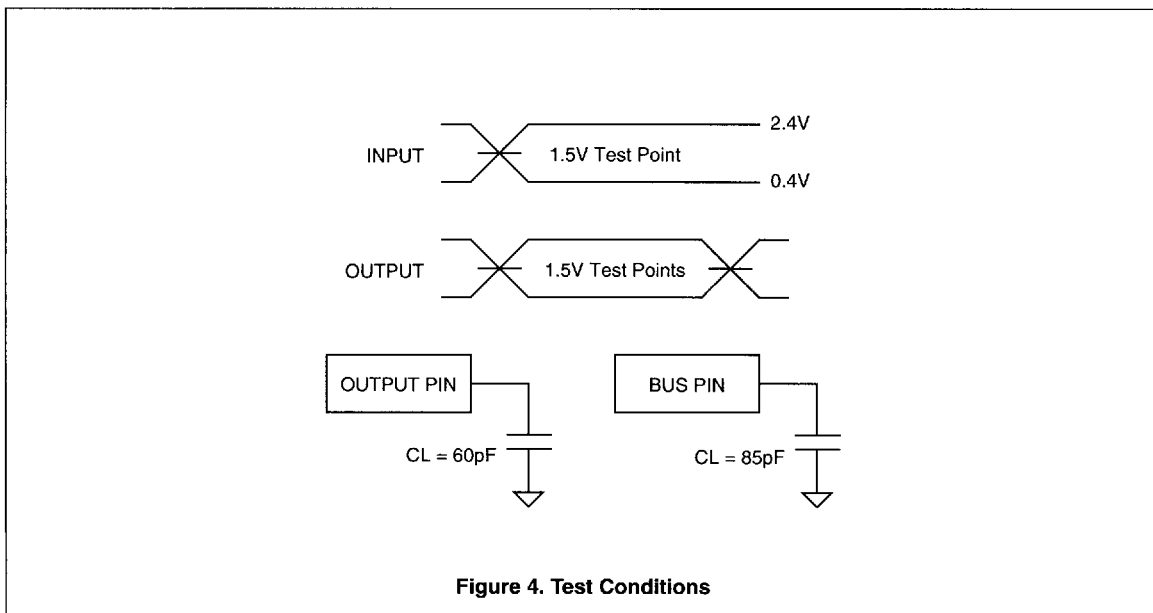

Figure 4. Test Conditions
- All voltage measurements are referenced to ground. All time measurements are referenced at input and output levels of 1.5V. For testing, all inputs swing between 0.4V and 2.4V. See Figure 4.
- See Figure 4 for test conditions for outputs.